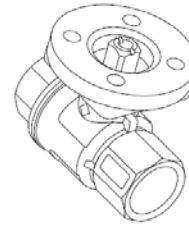

Figure 6: Mount the Thermal Barrier
2. Place the Teflon® thermal barrier on ball valve actuator mounting flange by inserting the alignment rib on the bottom of the thermal barrier into the recess on mounting flange (Figure 6).